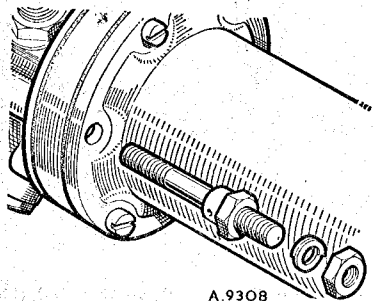

Fig. 1. The earthing stud on earlier pumps
3. Unscrew the coil housing securing screws (7), using a thick-bladed screwdriver to avoid damaging the screw heads.
4. Remove the earthing screw (9). On earlier pumps a 2 B.A. earthing stud (Fig. 1) was fitted in the 9 o'clock position on 12-volt pumps, and in the 12 o'clock position on 6-volt pumps, looking at the front or pedestal end of the pump.
5. The coil housing (6) may now be removed from the body (1). Next remove the diaphragm and spindle assembly (2) by taking hold of the diaphragm and unscrewing it anti-clockwise until the armature spring (5) pushes the diaphragm away from the coil housing. It is advisable to hold the housing over the bench so that the 11 brass rollers (3) will not fall onto the floor. The diaphragm and its spindle are serviced as a unit and should not be separated.